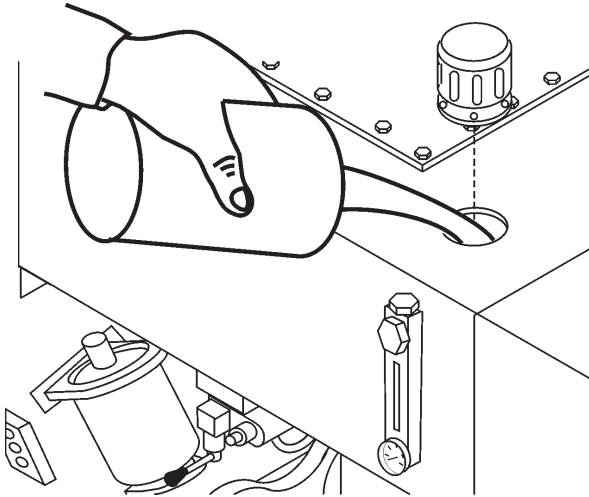

Figure 15. Hydraulic Oil Filler Hole
14. If the hydraulic oil level is low, remove the cap just above the oil level sight glass (Figure 15) and add the correct amount of hydraulic oil to bring the hydraulic oil level to a normal safe operating level. (Use Shell oil Tellus 68 or Mobil oil DFE26).